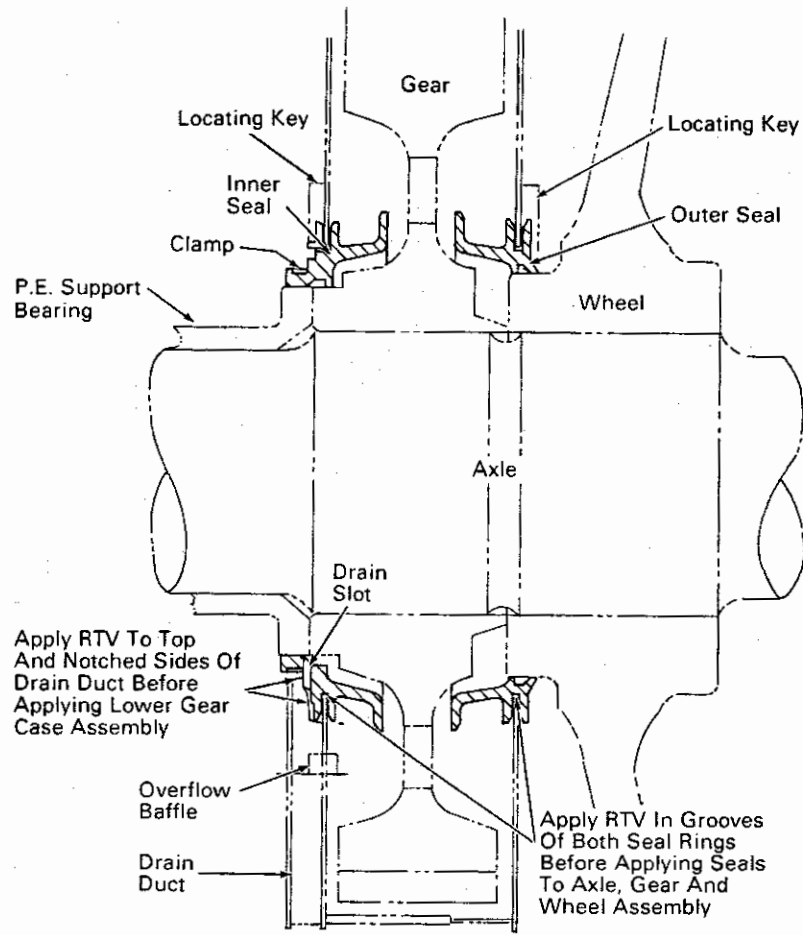

Fig.9 - Gear Case And Plastic Seal, Cross-Section
1. On the lower gear case, apply RTV around the edge of the drain duct that mates with the drain slot of the inner seal, Fig. 9. This will prevent contaminants from entering drain slot.